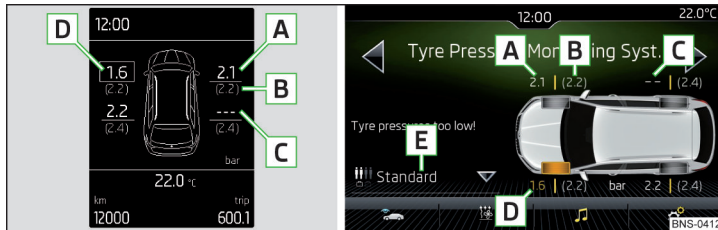

Fig. 314 Example in the display of the instrument cluster/settings in Infotainment
Display/screen display » Fig. 314
- In the menu item *Tyre pressure monitoring system*, tap on the function surface **E** » Fig. 314.